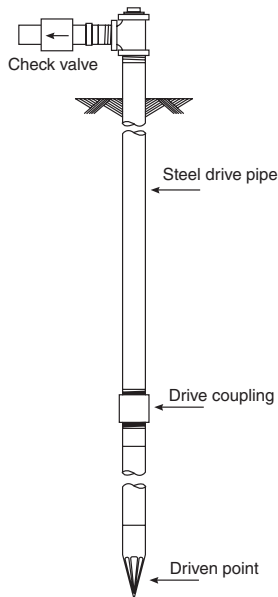

Figure 6 – Driven Point Installation
1. Connect the suction pipe to the drive point as illustrated in Figure 6. Keep horizontal pipe run as short as possible. Use Teflon tape on male pipe threads. Multiple well points may be necessary to provide sufficient water to pump.
2. To aid priming on well point installations, install a line check valve as shown in Figure 6. Be sure check valve flow arrow points toward pump.
NOTICE: For long horizontal pipe runs, install a priming tee between check valve and well head as shown in Figure 6. For driven point installations, install a check valve as shown in Figure 6. Be sure check valve flow arrow points **toward** pump.